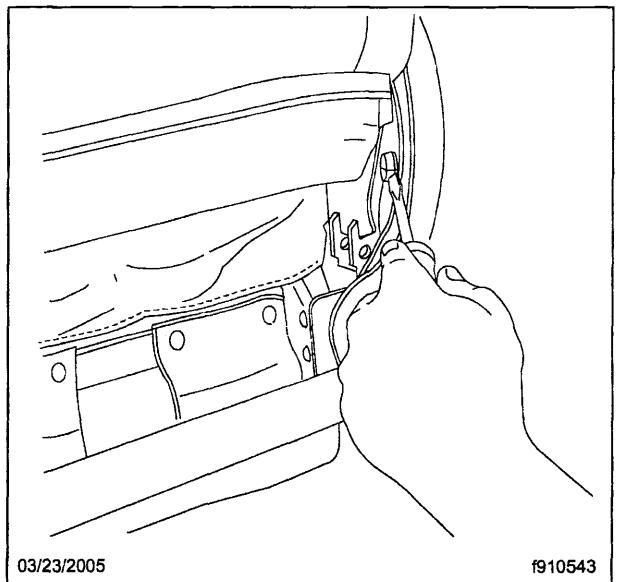

**Fig. 2, Pry the Spring Up and Pull the Seat Pan Forward**
4. Locate the leaf spring on the seat pan. Using a narrow screwdriver, pry the spring up to unlock the seat pan. Engage the cushion extender lever and pull the seat pan forward and up until the pan releases from the seat frame. See **Fig. 2**.